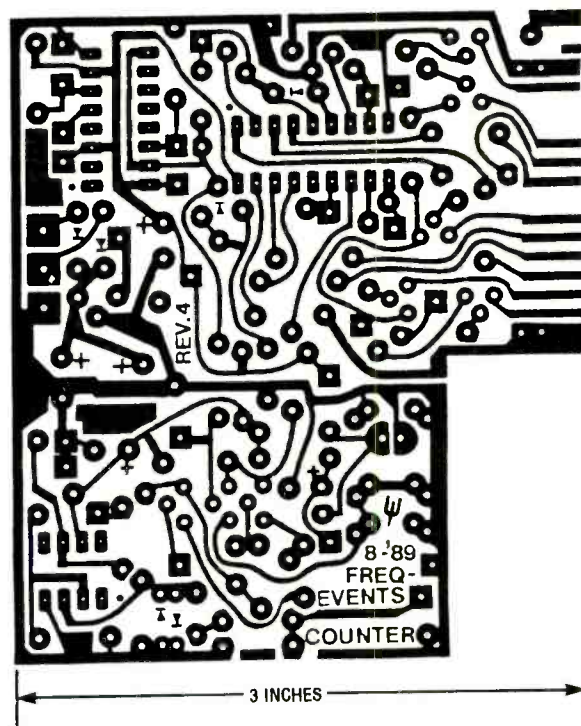
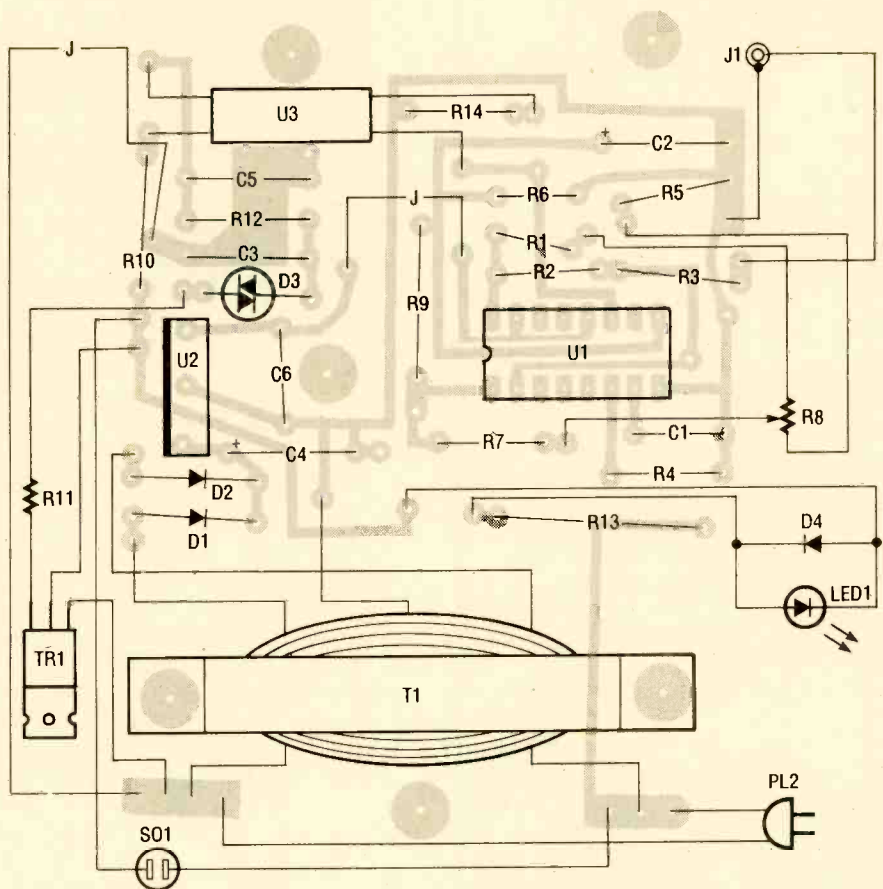

Fig. 2. The Budget Frequency/Events Counter was built on a printed-circuit board; shown here is a template for that board.
Fig. 3. Most of the parts mount on the board, as shown here. The Triac (TR1) requires a hefty heat sink, so it is mounted above the board on standoffs.
**Construction.** The Budget Frequency/Events Counter was built on a printed-circuit board, a template for which is shown in Fig. 2. (For those not inclined to etch their own board, an etched, drilled, and plated printed-circuit board is available, along with a list of sources for hard-to-find parts and a layout template for the front panel, from the supplier listed in the Parts List.)
Once all the necessary holes and the cutout have been made, attach the off-board components to the enclosure. Solder a 1500-ohm resistor from the center contact of J1 to a center contact of S3-c, as shown in Fig. 3. Connect the off-board components to the printed-circuit board with lengths of wire. The signal wires between the jacks and the printed-circuit board should be oriented away from the counter section to minimize radiation pickup. As an additional safeguard, it's a good idea to use shielded wire. You'll find it more convenient to make connections to the panel controls by routing the wiring directly to the foil side of the board. The square take-off pads are easy to spot there.
Fig. 3. When assembling the counter, first install IC sockets at the positions indicated for U1, U2, and U3, then the jumper connections and passive components (resistors, capacitors, etc.), followed by the semiconductor devices (diodes, transistors); do not install the IC's until the initial checkout has been performed.
Fig. 2. While any construction technique can be used, the author elected to use a printed-circuit board. If you choose to do the same, here's a PC pattern that you can use.
**Construction.** While any construction technique can be used, the author elected to use a printed-circuit board. A template of the author's PC board is shown in Fig. 2. As shown in the parts-placement diagram (see Fig. 3), all parts except TR1, J1, SO1, R8, LED1, and, of course, the probe assembly mount on the board.
Still another form of spark-gap transmitter was the rotary spark gap shown in Fig. 3. Although conceptually similar to the fixed spark gap, an electrical motor was used to spin a rotor-style electrode for the spark gap. Keying was accomplished by interrupting the cur-
Fig. 3. Still another form of spark-gap transmitter was the rotary spark gap. Although conceptually similar to the fixed spark gap, an electrical motor was used to spin a rotor-style electrode half of the spark gap.